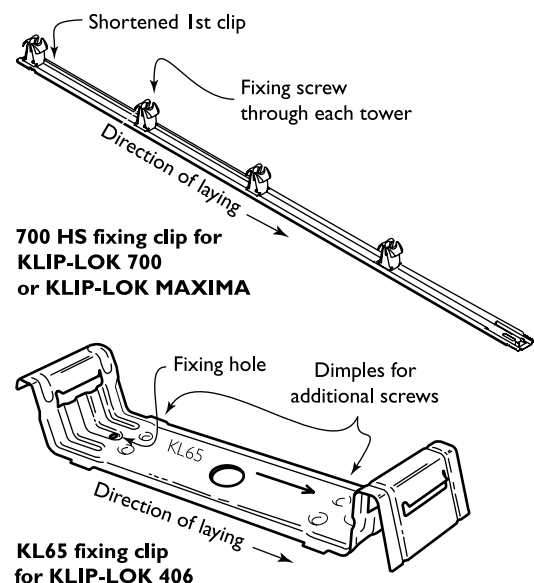

Figure 9.1.1
The orientation of the clips is important because they are not symmetrical (Figure 9.1.1).
Fix the first clip on the purlin nearest the gutter, with the clip pointing correctly in the direction of laying (Figures 9.1.1 and 9.1.2). Be sure the clip is 90-degrees to the edge of the sheet.
1. Fix the next row of clips, one to each support. Be sure the clip is 90 degrees to the edge of the sheet, and the embossed arrow on the clip points in the correct direction (Figure 9.1.1).